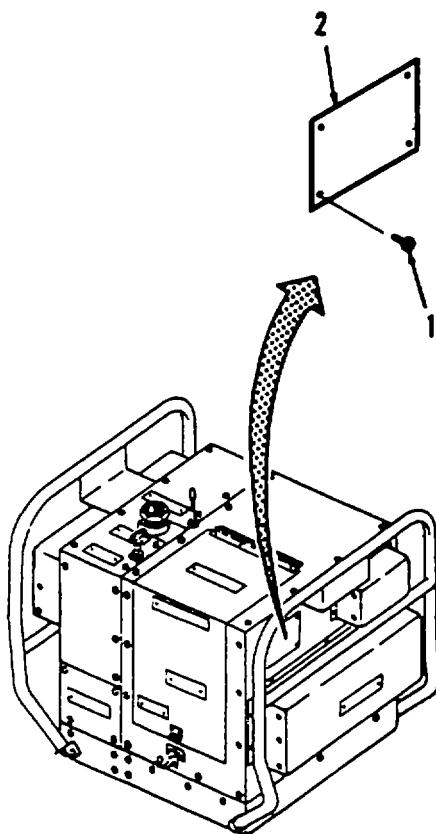

Figure 4-1. Ident Plates Replacement.
- a. **Removal** (Refer to Figure 4-1).